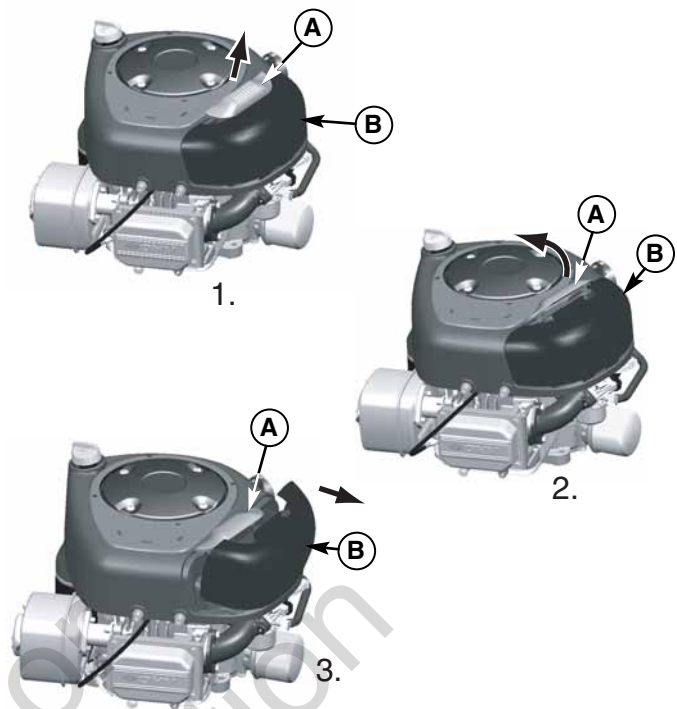

Figure 37. Air Filter Assembly - Briggs & Stratton Single Cylinder Models
1. Lift up on the bottom of the latch (A, Figure 37 or 38) and flip the latch away from the cover.